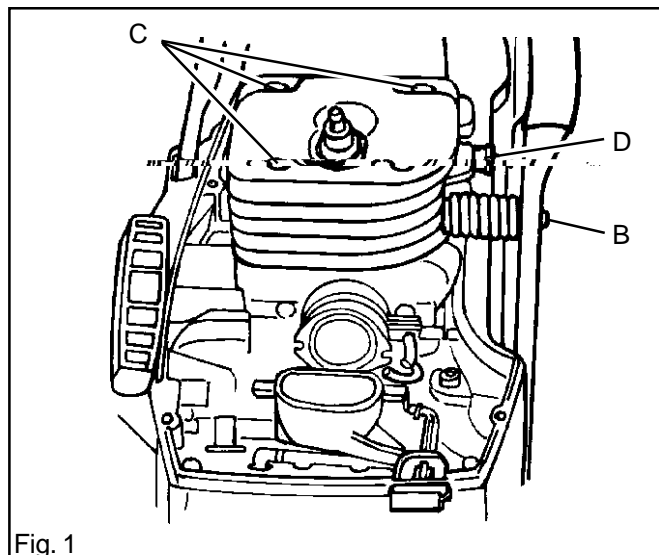

Fig. 1
8. Unscrew the decompression valve (D). See fig. 1.